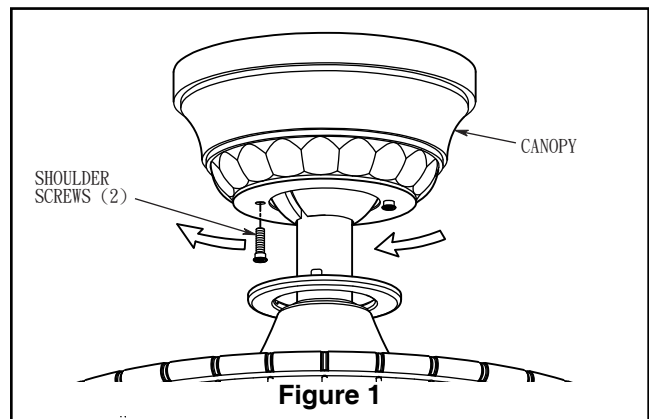

Figure 1
- ☐ 1. Remove one of the two shoulder screws in the hanger bracket. Loosen the second shoulder screw without fully removing it. Assemble canopy by rotating key slot in canopy over shoulder screw in hanger bracket. Tighten shoulder screw. Fully assemble and tighten second shoulder screw that was previously removed (Figure 1).